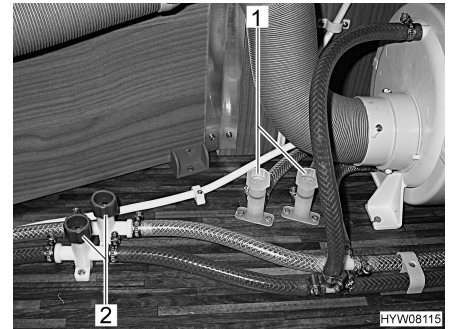

Fig. 71 Hot water source drain cocks
- Close all drain cocks. To do this, close the caps (Fig. 71,1 and 2) by turning them in a clockwise direction.